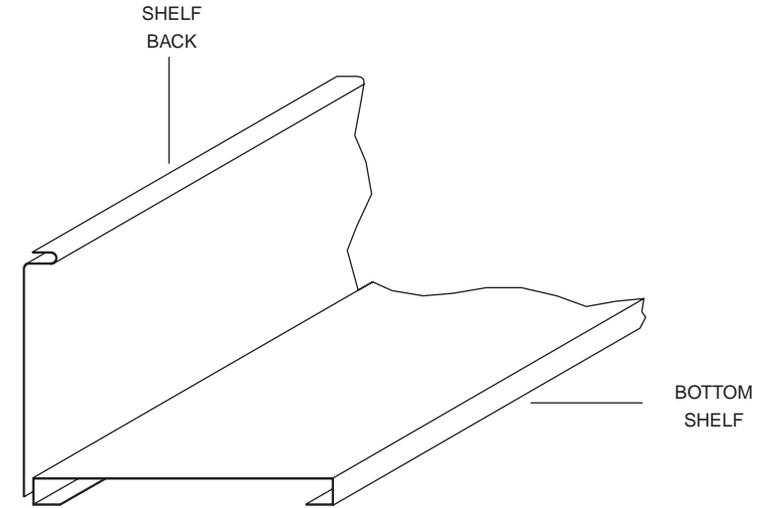

FIG. 1
1. Carefully slide bottom of "shelf back" between the panel fabric and the bottom shelf (Figure 1).
1. Assemble the cabinet back, the left and right side panels and the mounting brackets together by inserting the holes in the side panels and the mounting brackets over the studs on the cabinet back (Figure 1). Loosely fasten the parts together with (6) flange nuts. **DO NOT** tighten the nuts at this time.